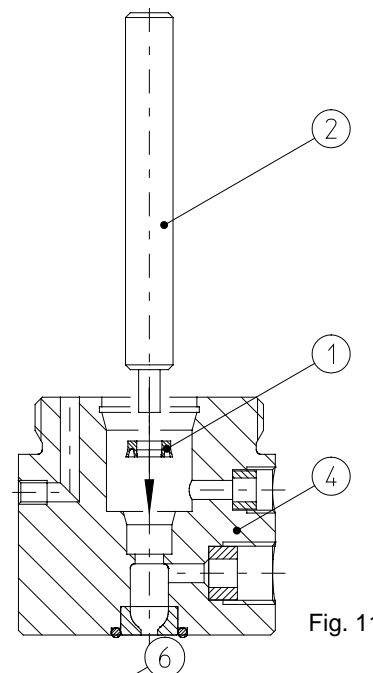

Fig. 11
Place the grooved ring ① on the drift ②, and press it into the valve housing ④ as far as it will go. (Fig. 11)